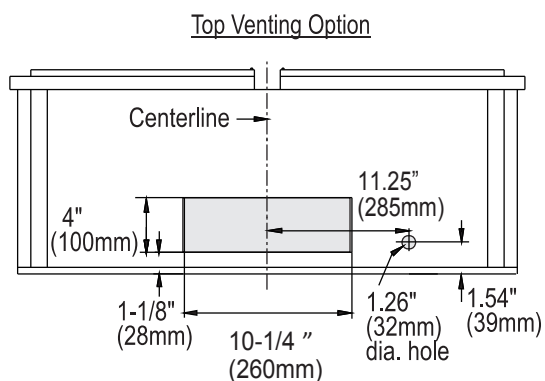
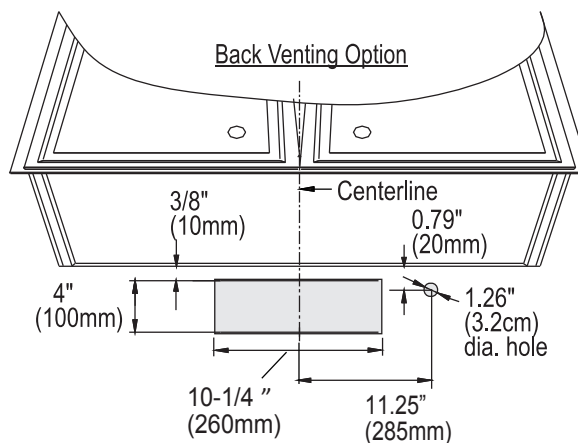

Fig. 5
Fig. 6
- Determine if your existing venting system is top venting or back venting, and ensure that the openings in the cabinet or wall for the damper and for power access are in appropriate locations and are of appropriate sizes, as per Fig. 5 if it is top vent or Fig. 6 if it is back vent.
- If this is a new installation, choose the venting method that suits your needs. Cut out openings for the damper and for power access in the cabinet bottom or exterior wall. Following Fig. 5 if it is going to be a top vent or Fig. 6 if it is going to be a back vent.